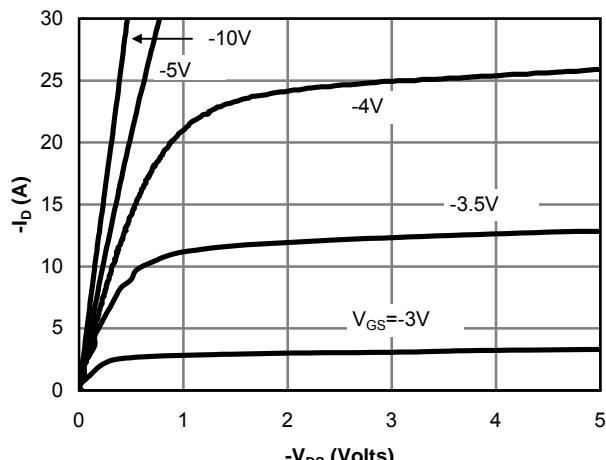

Fig 1: On-Region Characteristics
E. The static characteristics in Figures 1 to 6,12,14 are obtained using  $<300\ \mu\text{s}$  pulses, duty cycle 0.5% max.